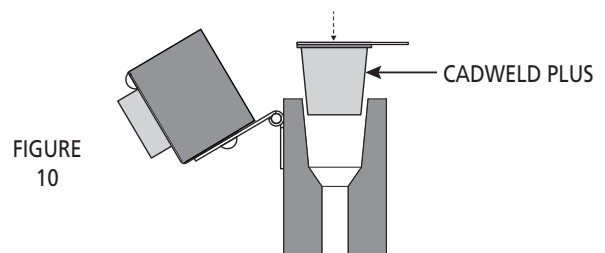

FIGURE 10
4. Insert CADWELD PLUS welding material cup into mold. **See Figure 10.**